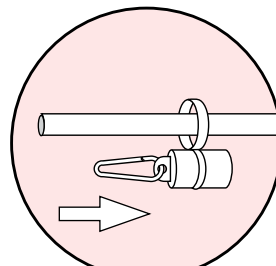
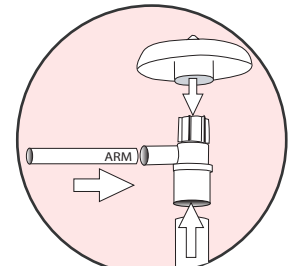

Fig 7.
Fig 8.
11. Place weight over pole (Fig 7), mount the rotating joint onto top of pole, push on finial and push rotating arm into joint, ensure the button clips into place (Fig 8)